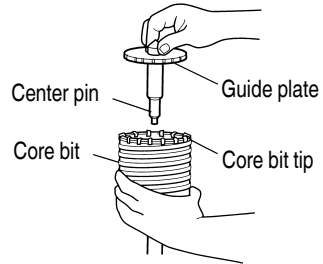

Fig. 26
- (3) Insert the center pin into the guide plate until it stops.
(4) Engage the guide plate with the core bit, and turn the guide plate to left or right so that it does not fall even if it faces downward. (Fig. 26)